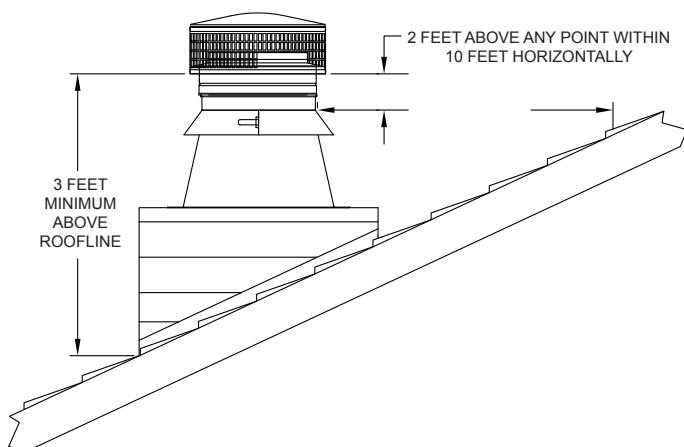

FIG. 9
**Termination:** NFPA 211, "Standard for Chimneys, Fireplaces, Vents, and Solid Fuel-Burning Appliances", states that chimneys shall extend at least three feet above the highest point where it passes through the roof of a building, and at least two feet higher than any portion of a building within ten feet. See FIG. 9.